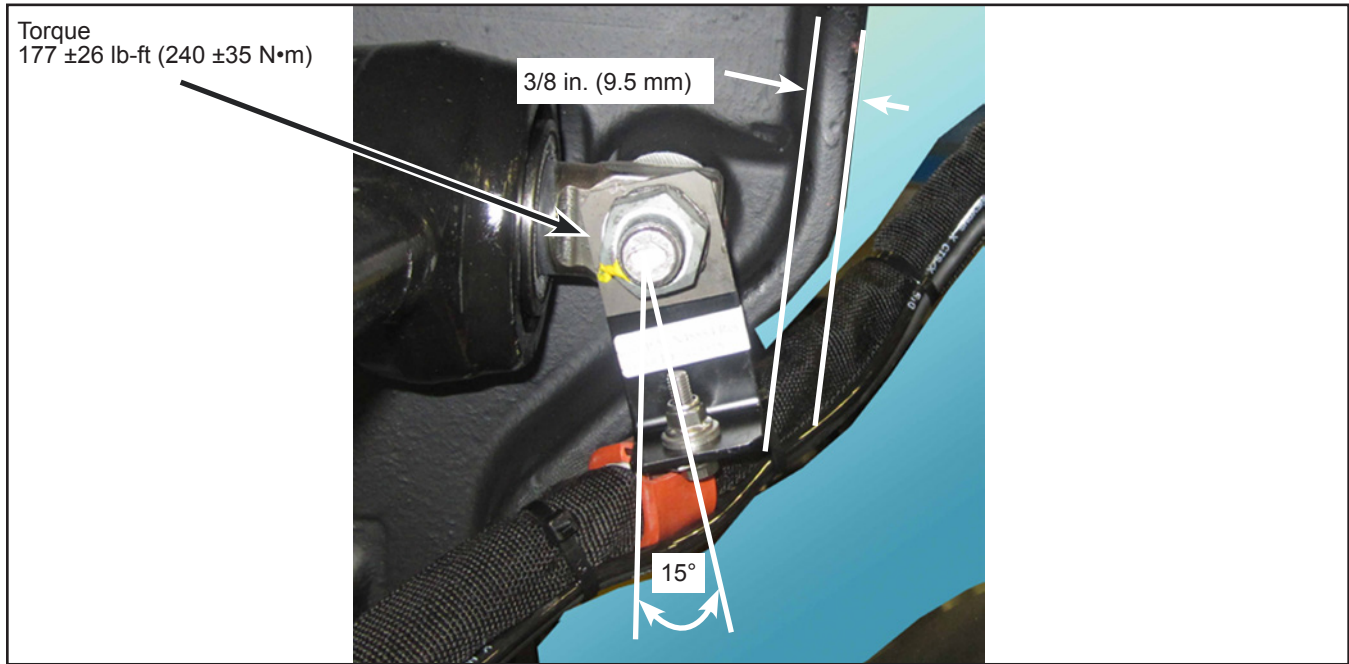

Figure 7 - L Support Position
- 2.7. Position the L support at an approximate angle of 15° to the exterior of the vehicle. As a reference, the distance between the vertical axle wall and the L support corner should be of about 3/8 in. (9.5 mm). See Figure 7.
- 2.8. Tighten the tie rod nut holding the L support to the specified torque indicated in Figure 7.